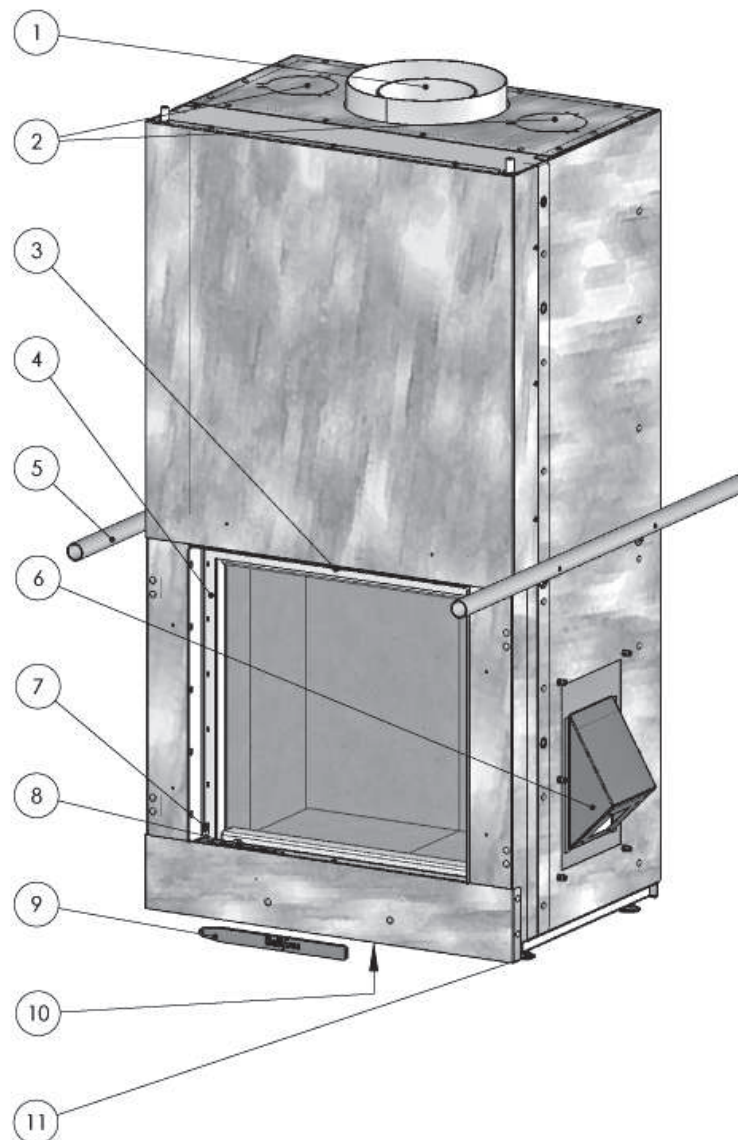

Figure 3: Operation
7.2. GETTING THE FIRE GOING (Figure 3)